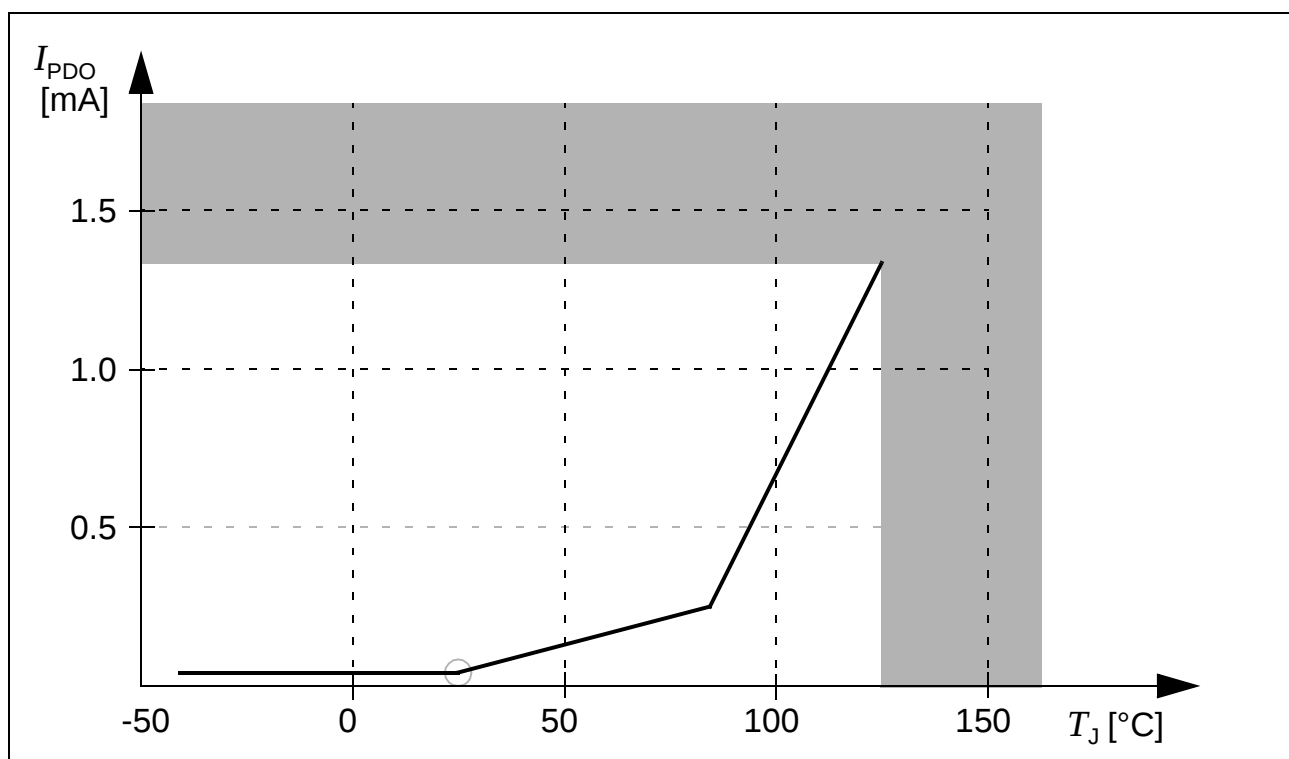

Figure 12 Sleep and Power Down Leakage Supply Current as a Function of Temperature
- 5) This parameter is determined mainly by the transistor leakage currents. This current heavily depends on the junction temperature (see Figure 12). The junction temperature T_j is the same as the ambient temperature T_A if no current flows through the port output drivers. Otherwise, the resulting temperature difference must be taken into account.